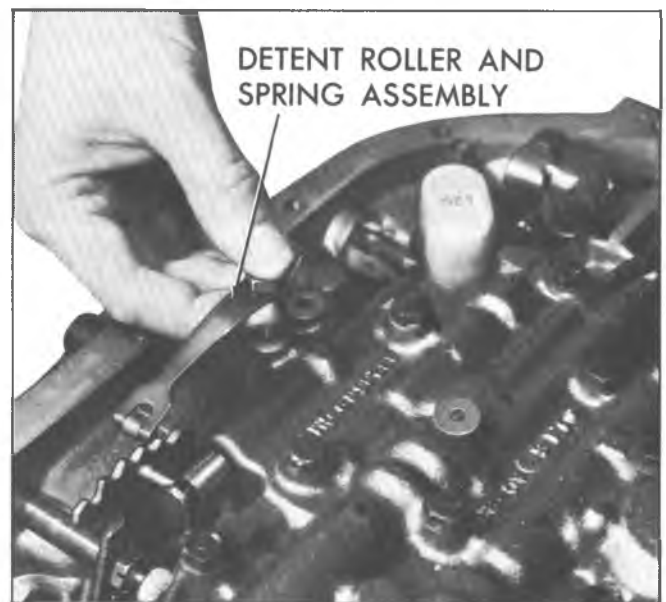

Fig. 9T-Removing Detent Roller and Spring Assembly
3. Remove control valve body attaching screws and detent roller and spring assembly (fig. 9T).